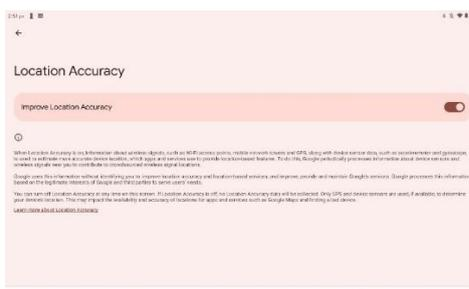

Figure 21
2. Check the accuracy mode of Location services. Make sure that it is set to **On** (Figure 21).